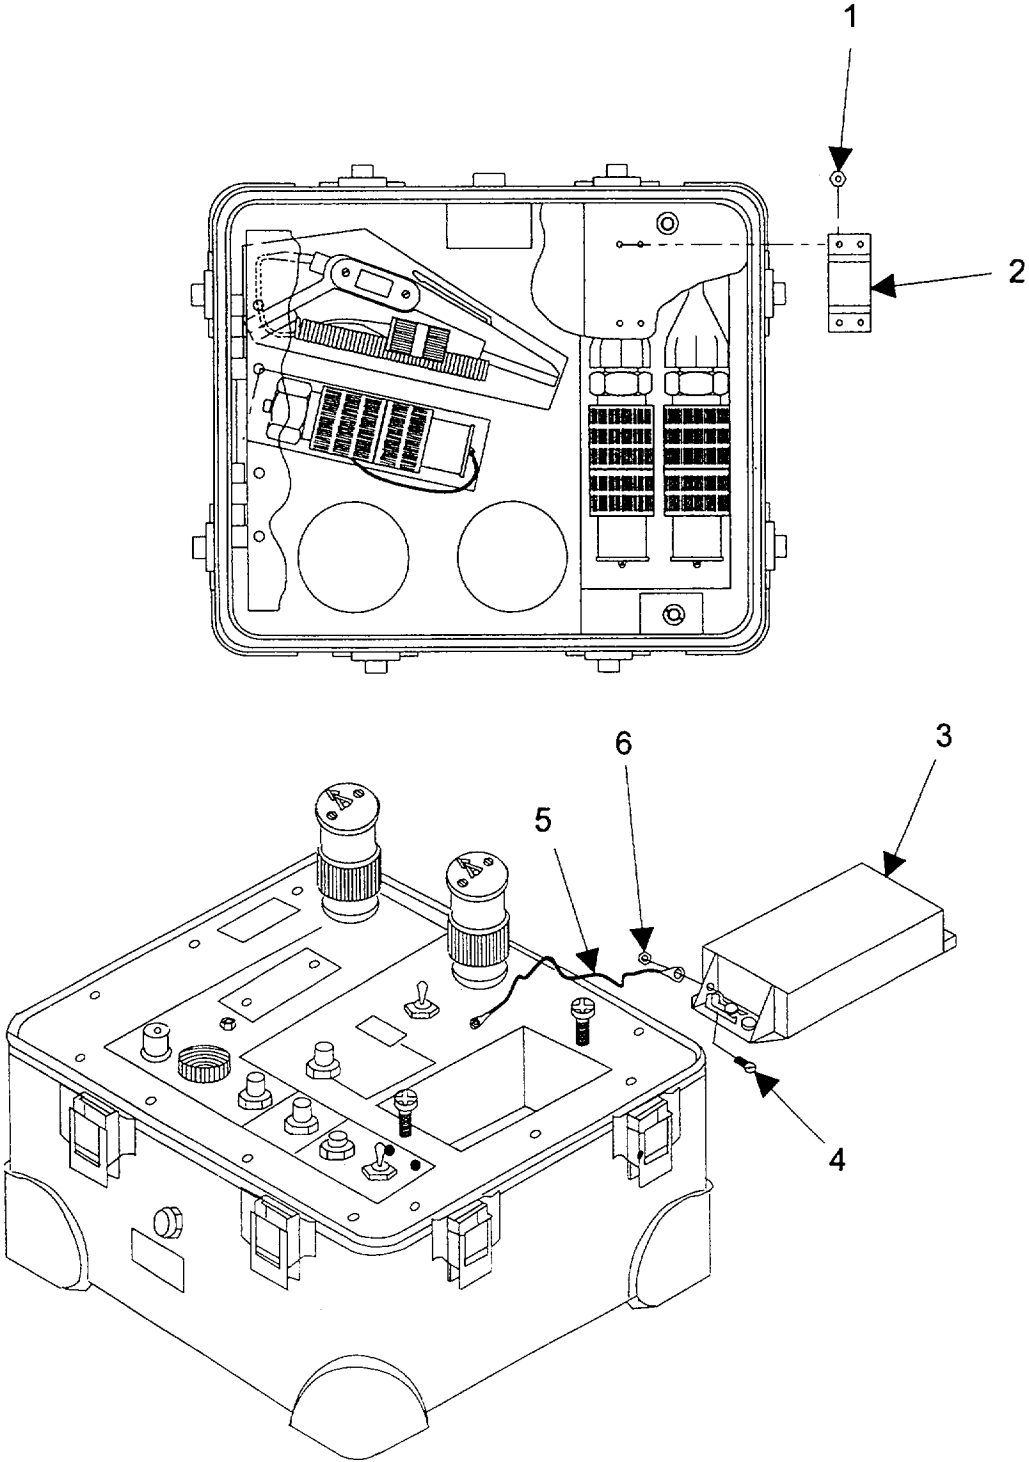

Figure 4-8.1. Battery Cover and Switch Actuator Replacement.
- (1) Using a nutdriver, remove nut (6, Fig. 4-8.1) and screw (4) from retainer cord (5) attached to the battery cover assembly (3).
- (2) Place thumbs on slide locks of battery cover assembly.
- (3) Press down on battery cover assembly and slide locks away from locking pins to unlock cover.
- (4) Remove battery cover assembly.
- (1) Using a nutdriver, remove four nuts (1, Fig. 4-8.1) from studs on transit case assembly top.
- (2) Remove switch actuator assembly (2) from studs.